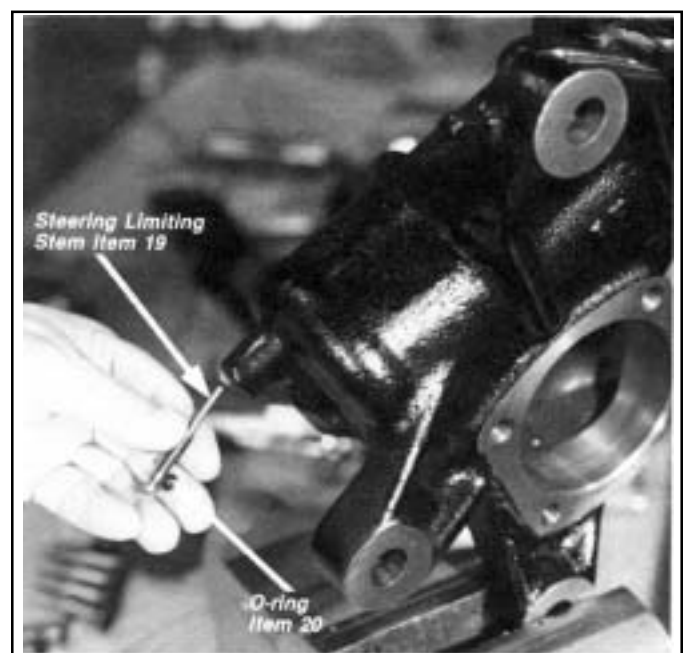

FIGURE 28 - REMOVING/INSTALLING STEERING LIMITING STEM
15. Remove the steering limiting stem protective plug (21) from the housing. Using a screwdriver remove the stroke limiting valve stem (19) from the housing and separate the O-ring (20) from the stem. *Figure 28*
16. Remove the O-ring (27) from the side cover (31). Remove the seal (29) and its split nylon backup ring (28) from